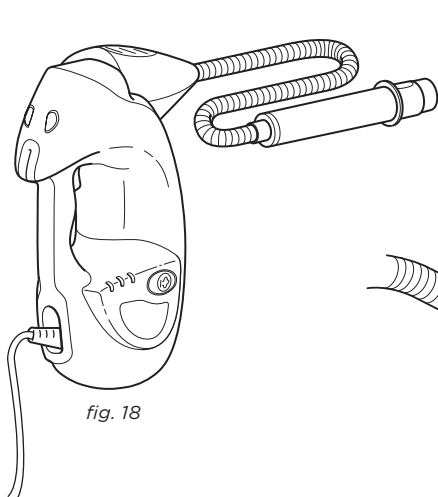

fig. 18
- 1 Attach the Crevice Tool by snapping into the handle of the Accessory Hose. (**fig. 18**)